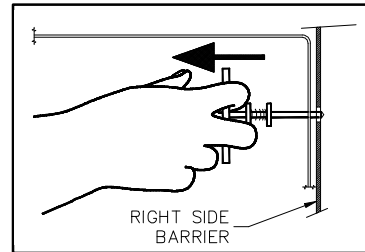

FIGURE 3-13: UNLATCH FRONT PLATFORM SECTION
- 3) Refer to **Figure 3-13**. Unlatch front platform section by pulling platform release T-handle (located at right side of platform) to the left.